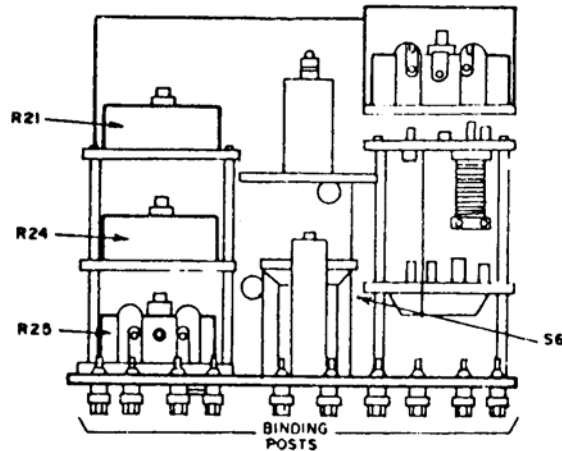

Figure 1. Capacitance, inductance, resistance adjustments.
- (1) Disconnect TI from ac source and set **CIRCUIT SELECTOR** switch to **L** and **D-QX1**.
- (2) Remove shorting strap from **EXT D-Q** binding post.
- (3) Connect dc detector to resistance bridge (part of resistance measurement system), using straps supplied with dc detector.
- (4) Connect lead from resistance bridge **UNKNOWN 1** terminal to TI **EXT D-Q HI** terminal, and connect lead from resistance bridge **UNKNOWN 2** terminal to TI **C** (high) terminal.
- (5) Set the **Q** and **D-Q** dial to **6.3** on black scale.
- (6) Adjust resistance bridge for a null indication on dc detector. If resistance bridge does not indicate between 9930 and 10,130 Ω , perform **b**(1) through (4) below.
- (7) Set TI **CIRCUIT SELECTOR** switch to **L** and **QX100**.
- (8) Turn **Q** and **D-Q** dial to **6.3** on black scale.
- (9) Connect clip and cable from resistance bridge **UNKNOWN 1** terminal to center terminal of variable resistance R24 (fig. 1), and connect lead from resistance bridge **UNKNOWN 2** terminal to **EXT D-Q HI** binding post.
(15) Connect lead from resistance bridge **UNKNOWN 1** terminal to center terminal of R24 and connect lead from resistance bridge **UNKNOWN 2** terminal to the center terminal of R21 (fig. 1).
(16) Adjust resistance bridge for a null indication on dc detector. If resistance bridge does not indicate between 993 and 1013 Ω , perform **b(8)** through (10) below.
(17) Replace shorting strap removed in (2) above and connect TI to ac source and energize.
(1) Remove bridge chassis from case.
(2) Loosen set screws in collar of contact and collar assembly for R25 (fig. 1).
(3) Rotate contact arm along the winding until resistance bridge indicates a null of 10,030 Ω .
(4) Tighten the two set screws in contact and collar assembly of R25 (fig. 1) (R).
(5) Loosen the two set screws in the collar of contact and collar assembly for R24 (fig. 1)
(6) Rotate contact arm along winding until resistance bridge indicates a null of 66 Ω .
(7) Tighten the two set screws in the contact and collar assembly of R24 (fig. 1) (R).
(8) Loosen the two set screws in the collar of contact and collar assembly for R21 (fig. 1)
(9) Rotate contact arm along resistance winding until resistance bridge indicates a null of 1003 Ω .
(10) Tighten the two screws in contact and collar assembly of R21 (fig. 1) (R).
(11) Replace bridge chassis in case.